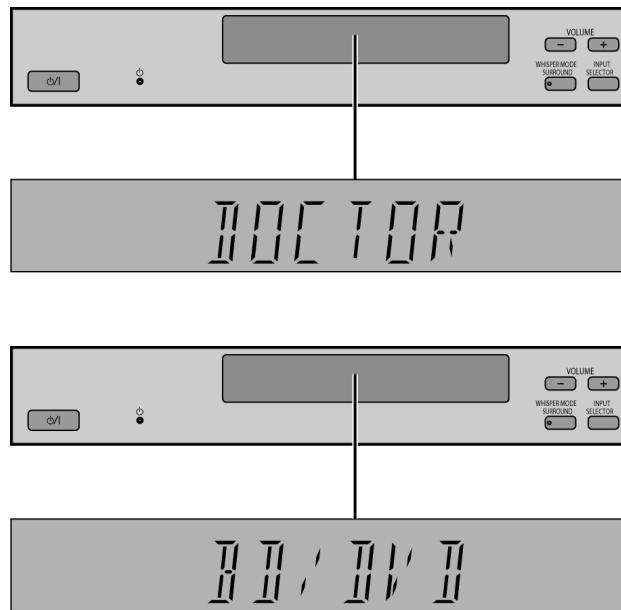

Fig. 5.3
2. The message, “_DOCTOR_” appears on the display for three seconds, and then it will display the following. Refer to Fig. 5.3.